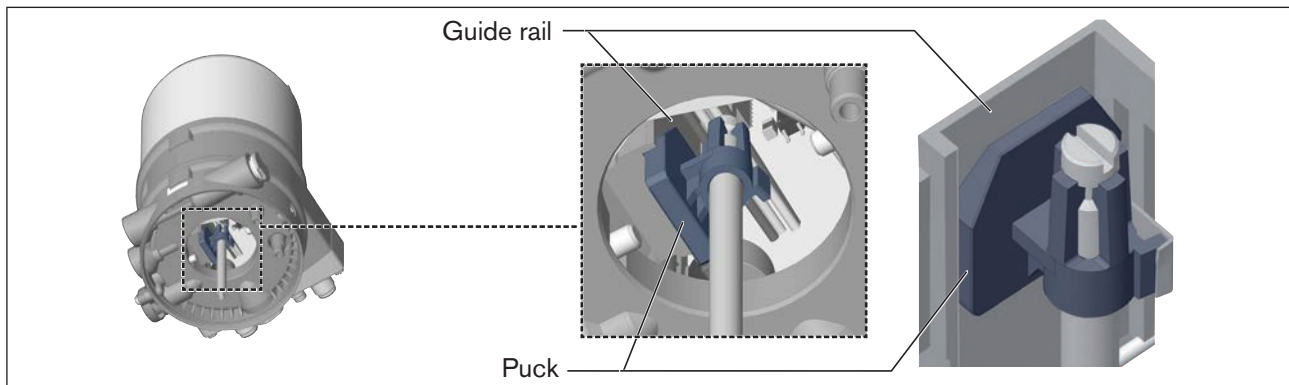

Figure 16: Aligning the puck
2. Align the puck of the actuator with the guide rail of Type 8692/8693 (see "Figure 16")